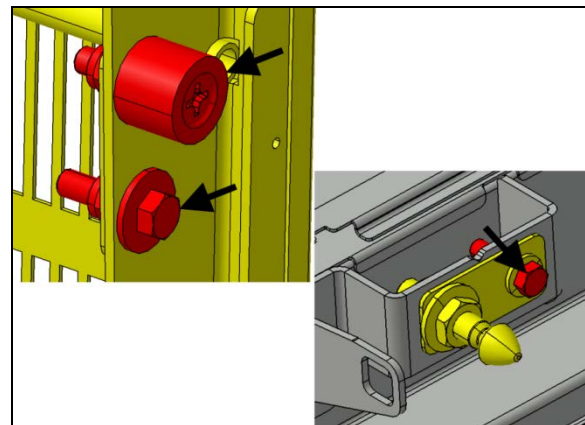

FIGURE 117
13. Open the door and perform a final tightening to the items indicated with arrows (FIGURE 117).